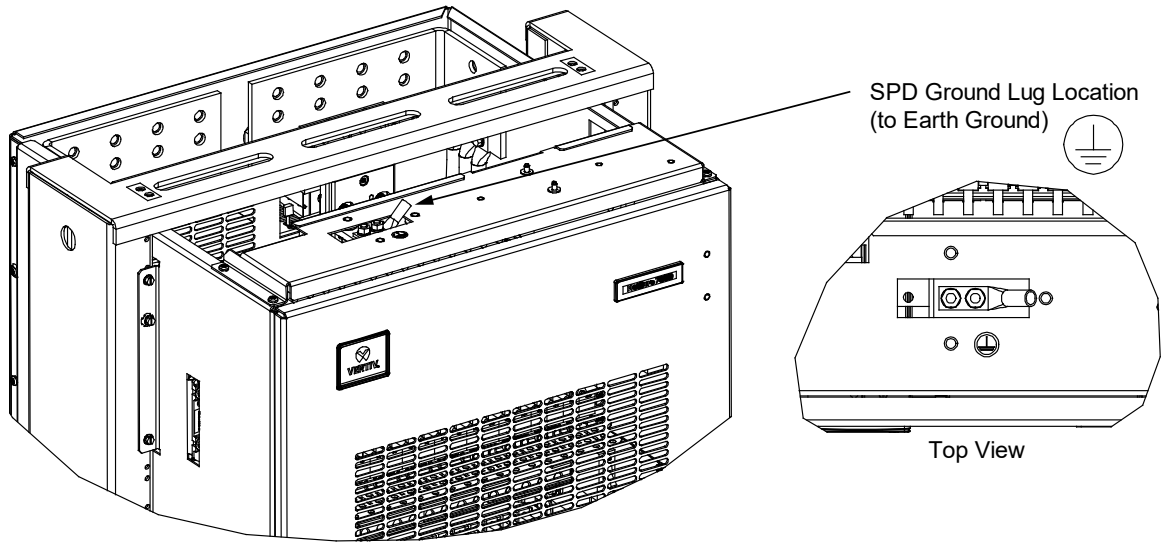

Figure 5
A landing point is provided on the top of the distribution cabinet for an SPD (Surge Protection Device) (if installed) earth ground lead. If installed, the SPD (Surge Protection Device) Assemblies are located on the underneath side of the distribution cabinet top cover panel. A busbar accessed from the top of the distribution cabinet is provided for the SPD earth ground connection. The busbar has two (2) 1/4 20 x 1/2" long threaded studs on 5/8" centers. A 2-hole, 5/8" centers, 1/4" hardware, 2 AWG flex wire crimp lug is provided with the power system. An opening in the top cover permits the compression lug to be routed either to the left or to the right. Refer to Figure 5.